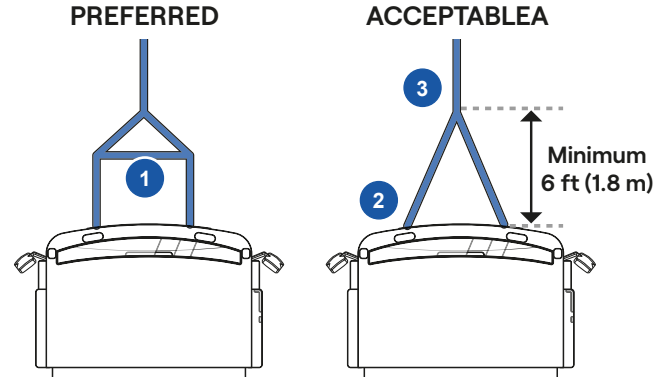

Figure 5 - Recovery options
- Use double chains or ropes to distribute the load evenly between both hitches (see either recovery option in **Figure 5**).
- Use a spreader or stabilizer bar to distribute the load between the two hooks (**Figure 5 no. 1**), or
- If there is no spreader bar, hang the main drag chain or cable at least 6 feet from the vehicle (**Figure 5 no. 2 and 3**).